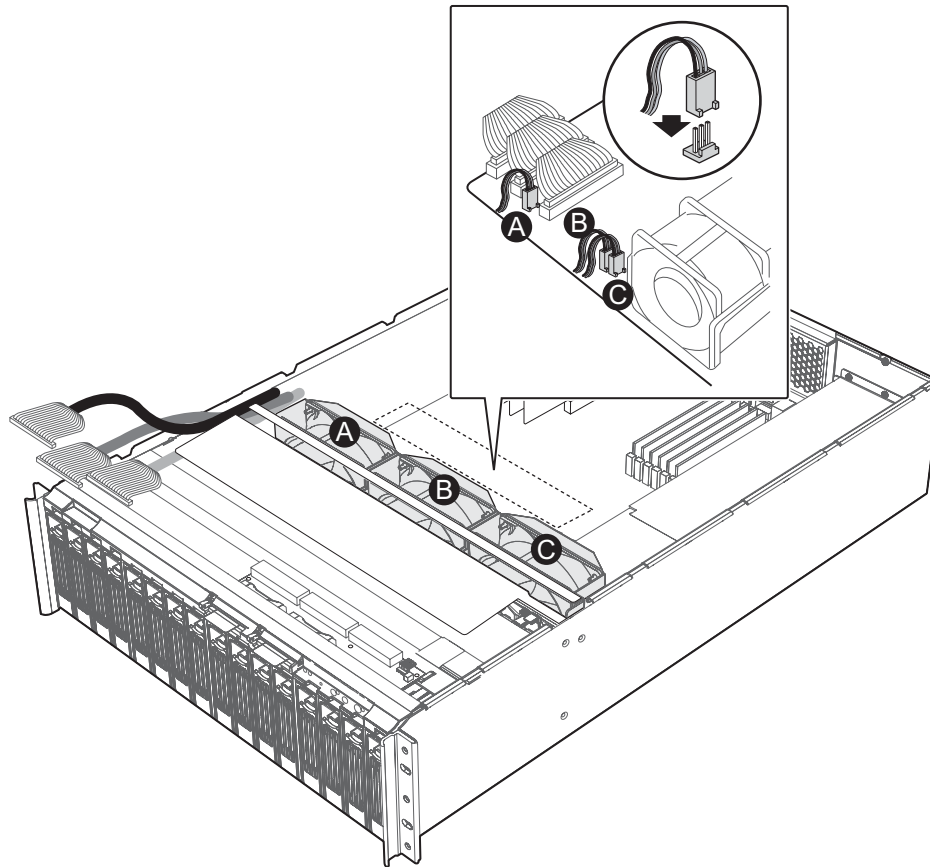

Figure 38. Re-attaching the System Fan Assembly Connectors
- A. Re-connect the wire connector for Fan 3 to the baseboard. See Figure 38.
- B. Re-connect the wire connector for Fan 4 to the baseboard. See Figure 38.
- C. Re-connect the wire connector for Fan 5 to the baseboard. See Figure 38.